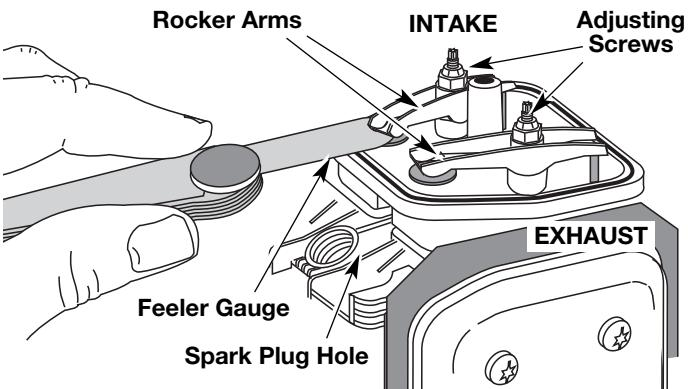

Fig. 32
- The piston is at the top of its travel. Look in the spark plug hole to view the piston (Fig. 32)
between the valve stem and rocker arm (Fig. 32). Measure both the intake and exhaust valves. The recommended clearance for both intake and exhaust is .003–.006 in. (.076 – 0.152 mm). Use a standard automotive .005 in. (0.127 mm) feeler gauge. The feeler gauge should slide between the rocker arm and valve stem with a slight amount of resistance, without binding. See Figures 32 and 33.
- a. Turn the adjusting nut using a 5/16 inch (8 mm) wrench or nut driver (Fig. 32).